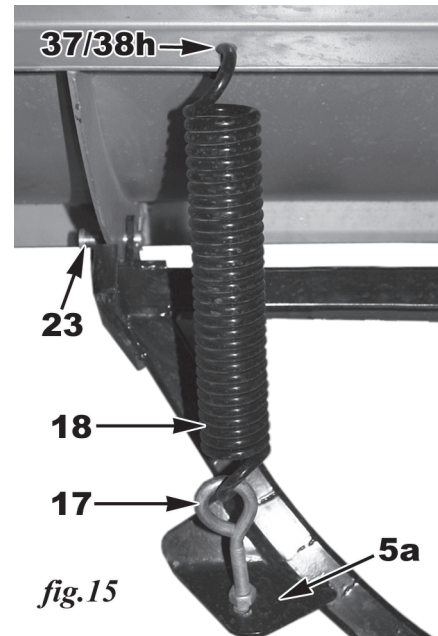

fig.15
- Align the D frame's 3 attachment points with the two vertical centre ribs of each plow blade panel as well as the double, joined vertical ribs in the middle of the plow (fig.14). Insert clevis pins through each attachment point and the vertical ribs on the back of the blade. Secure the clevis pins (23, fig.15) in place with cotter pins and bend them so they remain in place.
14. Hook the trip springs (18, fig.15) into the holes in the top cross rib at the back of each plow blade panel (37/38h, fig.15). Attach the springs to the angle plates on the D frame (5a, fig.15) using for each an M12 gr.8 eyebolt (17, fig.15), M12 nut, 2 12 mm washers and an M12 Nylock nut.